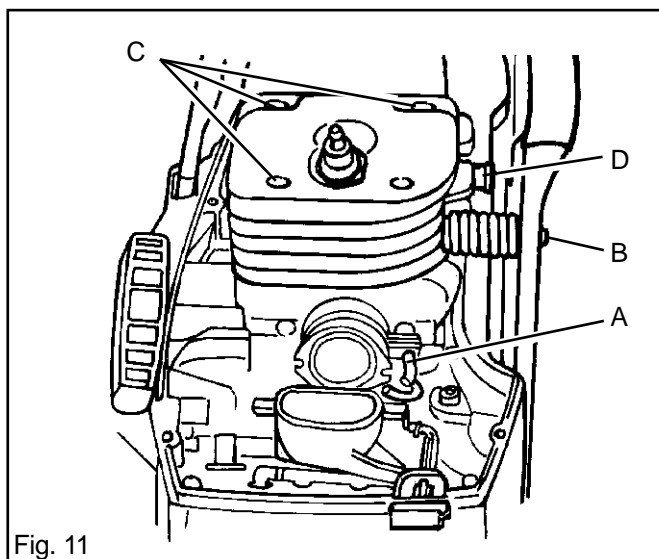

Fig. 11
7. Fit the four cylinder bolts (C) and tighten them in rotation. Finally, tighten them to 10 Nm. See fig. 11.
8. Refit the decompression valve (D). See fig. 11. Tighten it to 15 Nm.
9. Attach the anti-vibration springs (B) to the cylinder. See fig. 11. Tighten the bolts to 10 Nm.
10. Push home the impulse pipe (A) in the hole on the inlet manifold. See fig. 11.